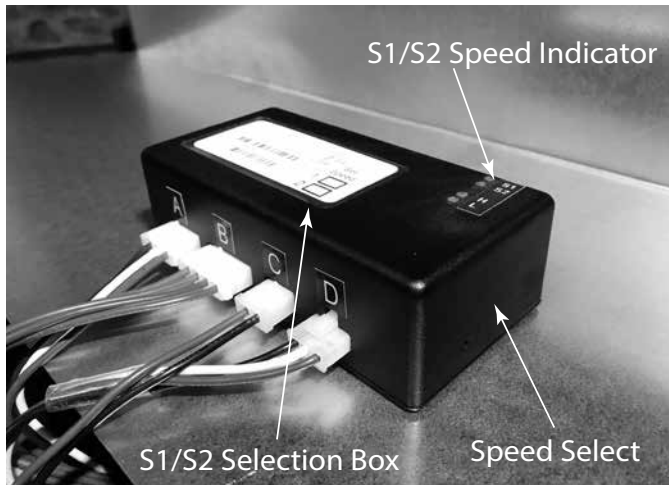

Figure 11.3
- Press the speed select button to cycle through and select proper speed settings for your installation. See Figure 11.3.
- **IMPORTANT;** Mark the appropriate speed using the S1 or S2 box located on the speed control label for future reference. See Figure 11.3.